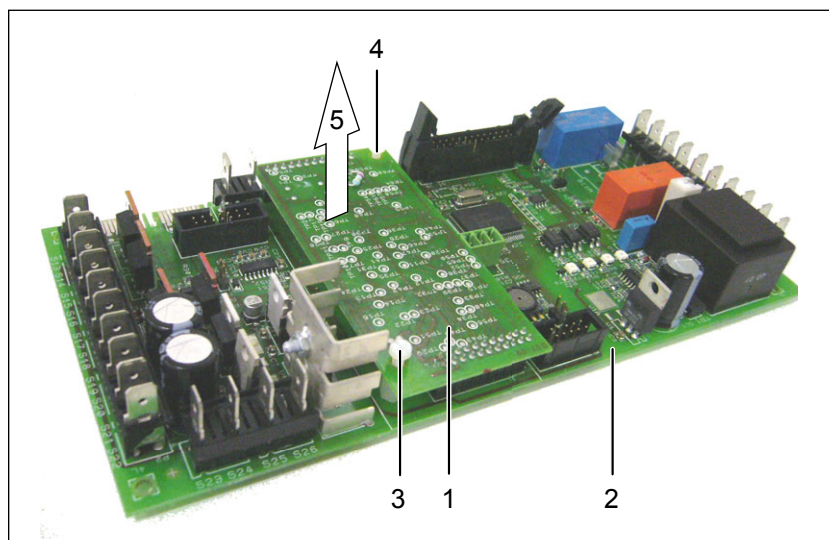

Fig. 34 Replacing the PCB of the CO₂ sensor
3. Replace the PCB of the CO₂ sensor (Fig. 34, 1) in the control unit, which is screwed to the control module of the humidity unit (2). To do this, undo the two plastic screws (3 and 4) and pull the PCB upwards (5). Carefully insert the new PCB (included in the spare parts delivery) and attach with the two plastic screws.